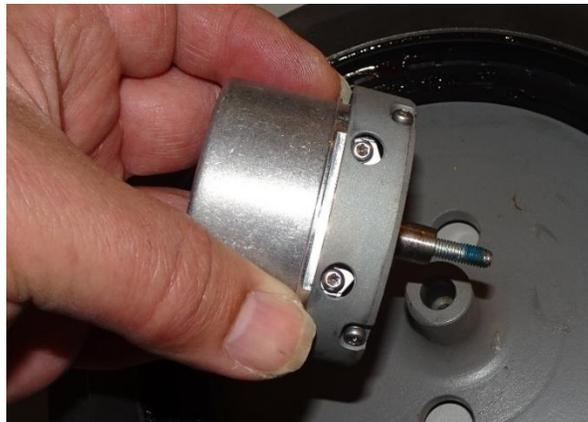

Figure 29
14. Remove both bolts and the encoder, Figure 29.